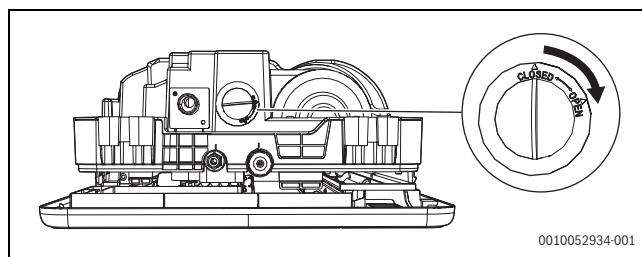

Fig. 36
- Open the test water cap (→ Fig. 36) on the machine body needs to be unscrewed during the drainage test to check whether the drainage pump is turned on and whether there is a problem with the drainage pump.